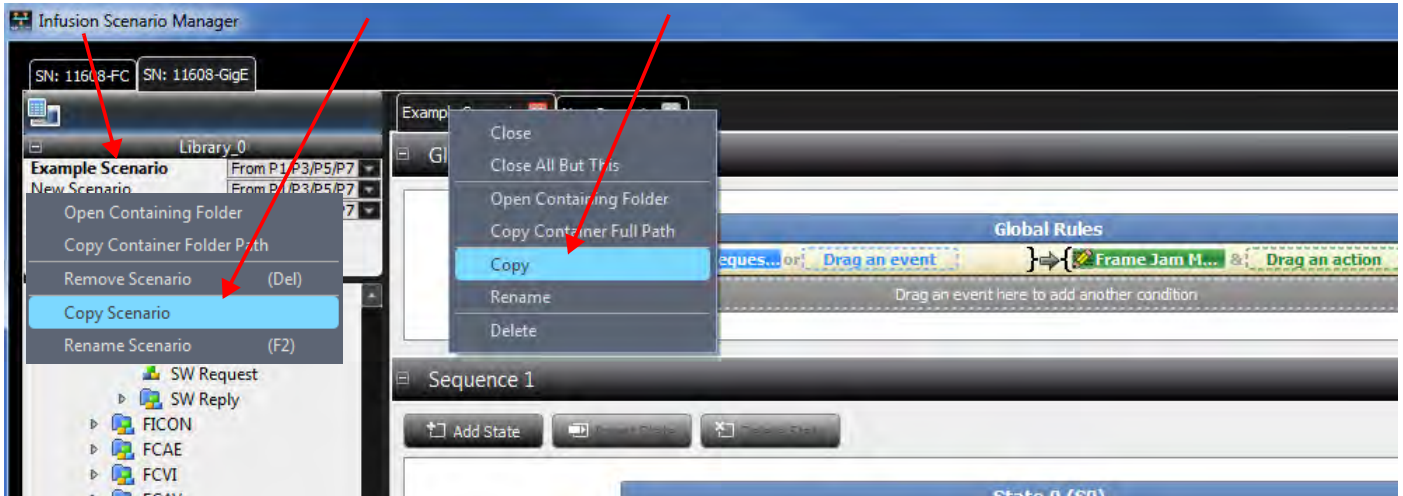

Figure 6.49: Copy Scenario
- In the Library pane, right-click and select **Copy Scenario** (see Figure 6.49).